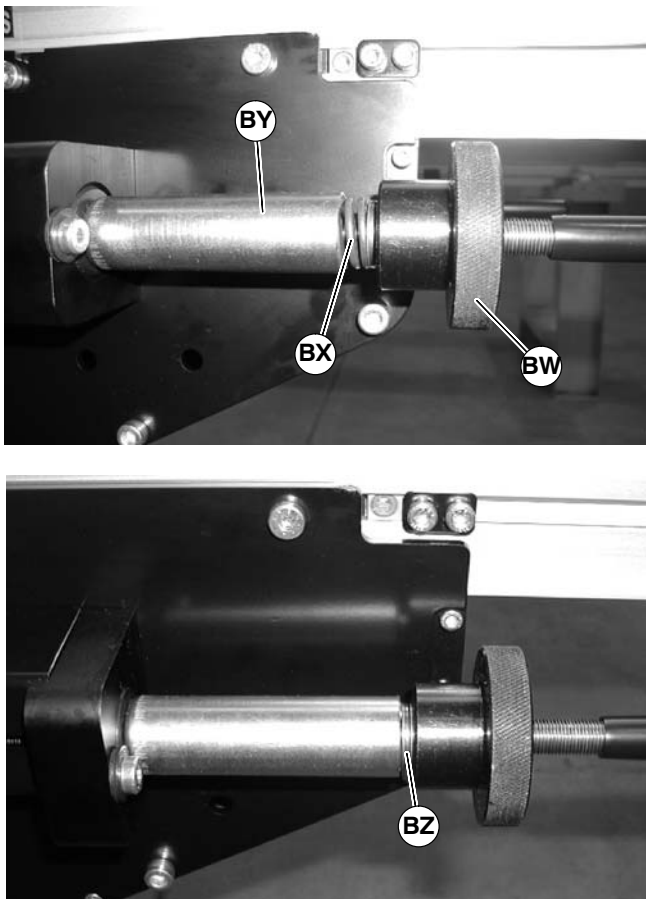

Figure 45
1. Turn knurled knob (BW of Figure 45) on each side of center drive unit clockwise until tensioning spring (BX) is completely behind spring cover (BY). There should be approximately 1/8" gap () between hand knob (BZ) and spring cover (BY).
2. As normal belt stretch occurs over time, the spring (BX of Figure 45) will be exposed out of the spring cover (BY). When the spring is exposed over 1/2" or if conveyor belt slippage occurs, retighten knurled hand knob (BW) on each side of center drive unit clockwise until tensioning spring is completely behind spring cover.